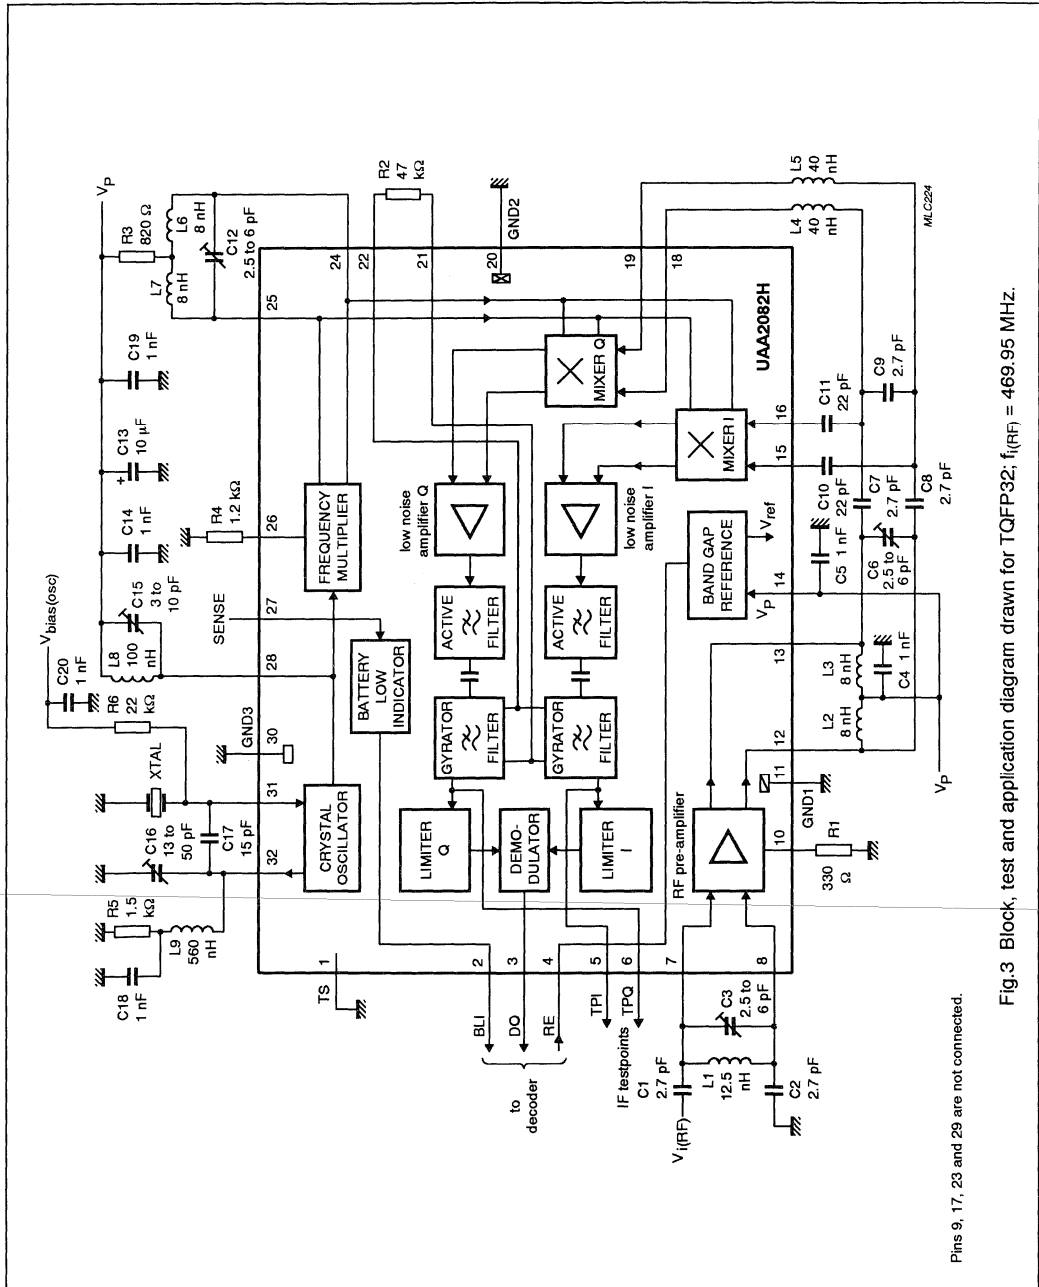

Fig.3 Block, test and application diagram drawn for TQFP32;  $f_{i(RF)} = 469.95$  MHz.
**Table 2** Tolerances of components shown in Figs 3, 4 and 5 (notes 1 and 2)